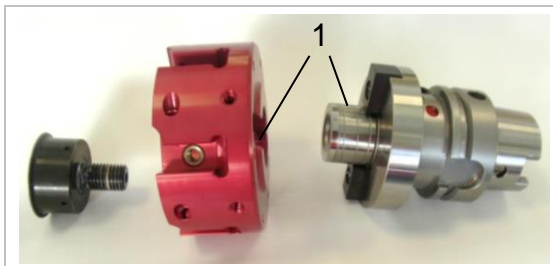

Figure 2: Cleaning hydraulic expanding arbor and tool
1. Clean the shank on the tool and the hydraulic expanding arbor (see "Figure 2: Cleaning hydraulic expanding arbor and tool", item 1).